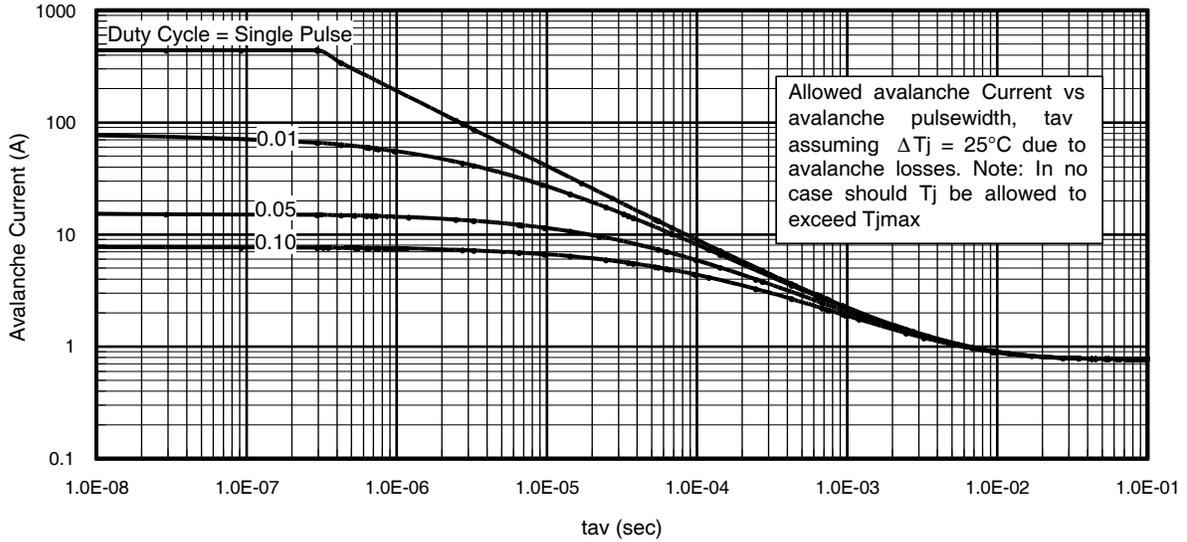

Fig 15. Typical Avalanche Current Vs.Pulsewidth
Notes on Repetitive Avalanche Curves , Figures 15, 16: (For further info, see AN-1005 at www.irf.com)
7. ΔT = Allowable rise in junction temperature, not to exceed T_{jmax} (assumed as 25°C in Figure 15, 16).